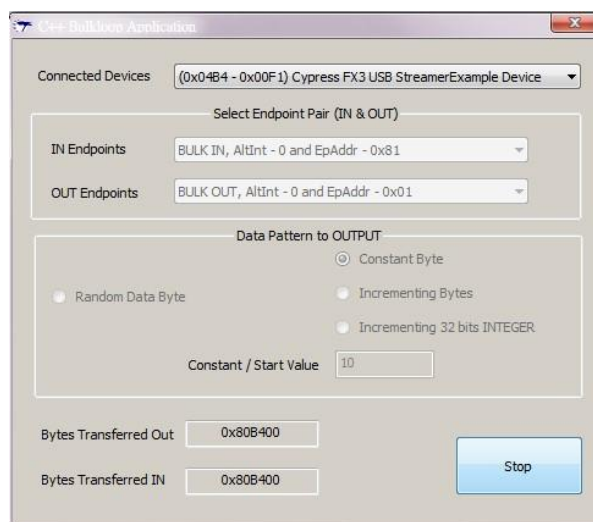

Figure 2-18 FX3 bulk in out bulkloop
- Execute the .exe application: \demo_batch\Host_app\loopback\bulkloop.exe, see **Figure 2-18** below, press Start, you will see the Bytes Transferred IN/Out value increasing rapidly. For more information of bulkloop.exe, please refer to Cypress EZ-USB FX3 SDK Getting Started with FX3 SDK.